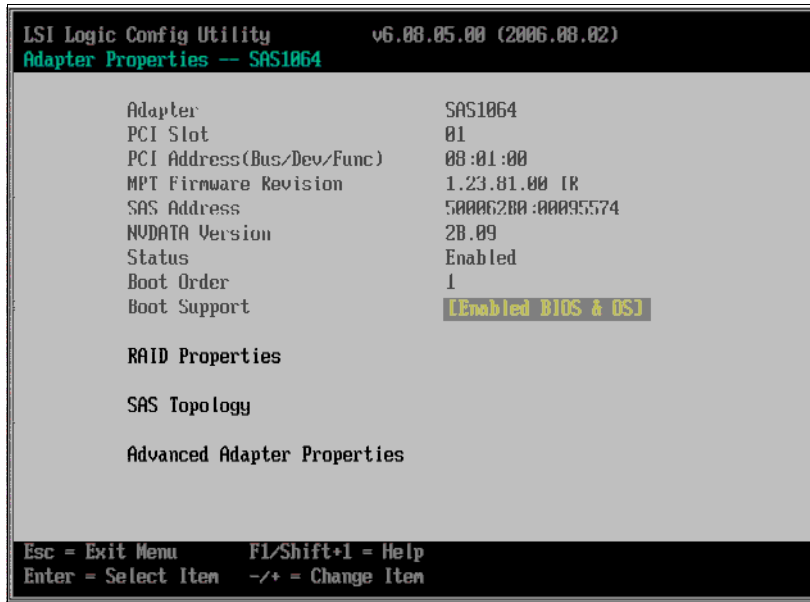

Figure 18-4 SAS Expansion Card - LSI Logic Config Utility adapter selected
4. Press the Enter key to select the SAS adapter internally connected to the SAS connectivity module in I/O Module bay 3, as shown in Figure 18-4 on page 417.